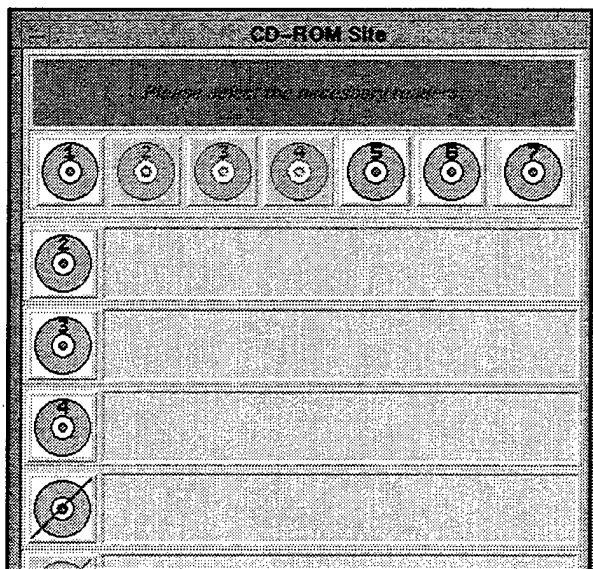

Fig. 75 — CDROM site window: three CD readers selected (#2, 3, 4)
- (3) Click (with left mouse button) on the CD device number(s) to be selected (1 through 7). As the user selects a device number, MMC will enter it in the list (Fig. 75).